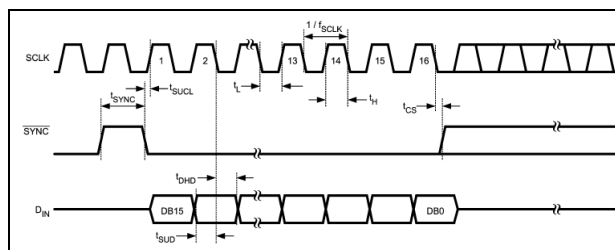

Figure 2: Digital Input Timing Diagram
2. Create the digital waveforms seen in *Figure 2* with your Logic Generator. Ensure that SCLK doesn't exceed 30MHz. Refer to "Section 4.1: Serial Interface" and the DAC121S101 Datasheet for further details.
In Stand-Alone Mode, The serial interface must be driven by an external device. The three-wire interface (SCLK, SYNC, D_{IN}) is compatible with SPI, QSPI and MICROWIRE, as well as most DSPs. See the Timing Diagram (Figure 2) for information on a write sequence.